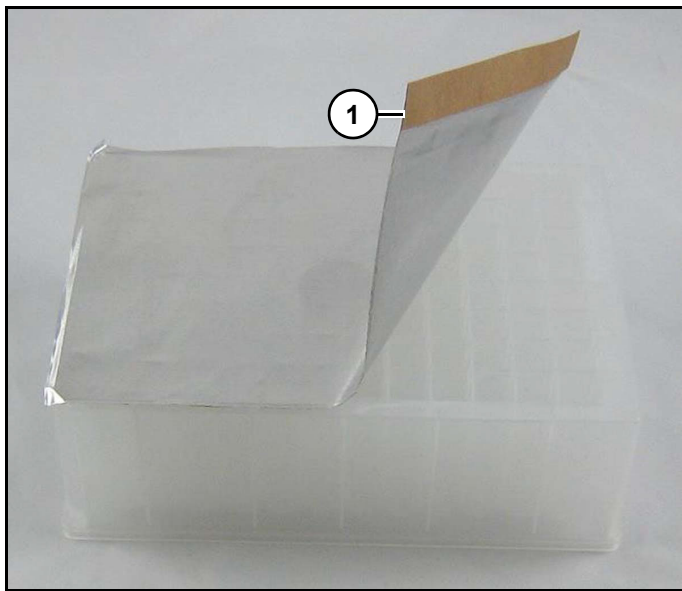

Figure 117
2. Using supplied foil seal (1) (Figure 117) (part # 538619), apply seal to top of plate ensuring that all wells are completely covered.